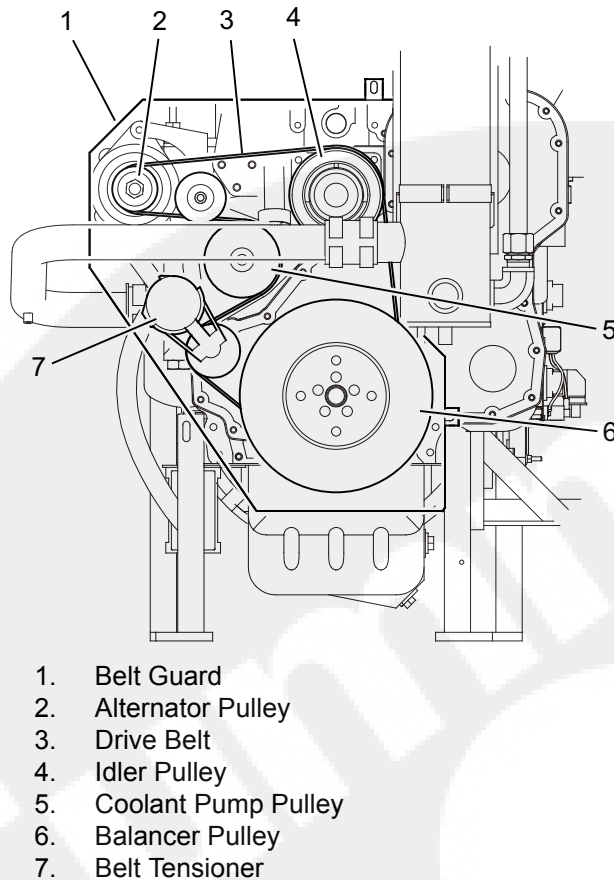

Figure 5-6 Coolant Pump/Alternator Belt (typical)
3. Remove the belt guard capscrews and the belt guard. Set aside for re-installation (see Figure 5-6).